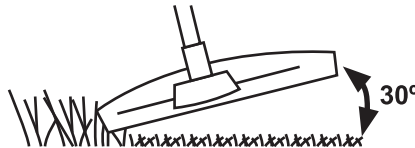

Fig. 25
5. Hold the trimmer head just above the ground at an angle of approximately 30°. (See Fig. 25)